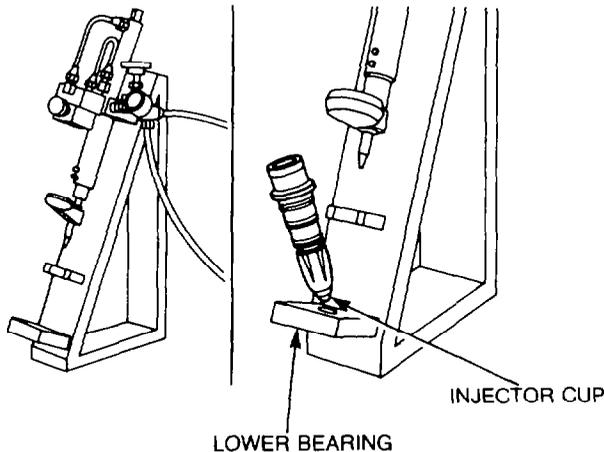

Figure 106 — Injector Plunger Checking Tool
- a. Install the injector without the springs into the injector sticking plunger checking tool 3375209 with the injector cup end in the lower bearing (see Fig. 106).